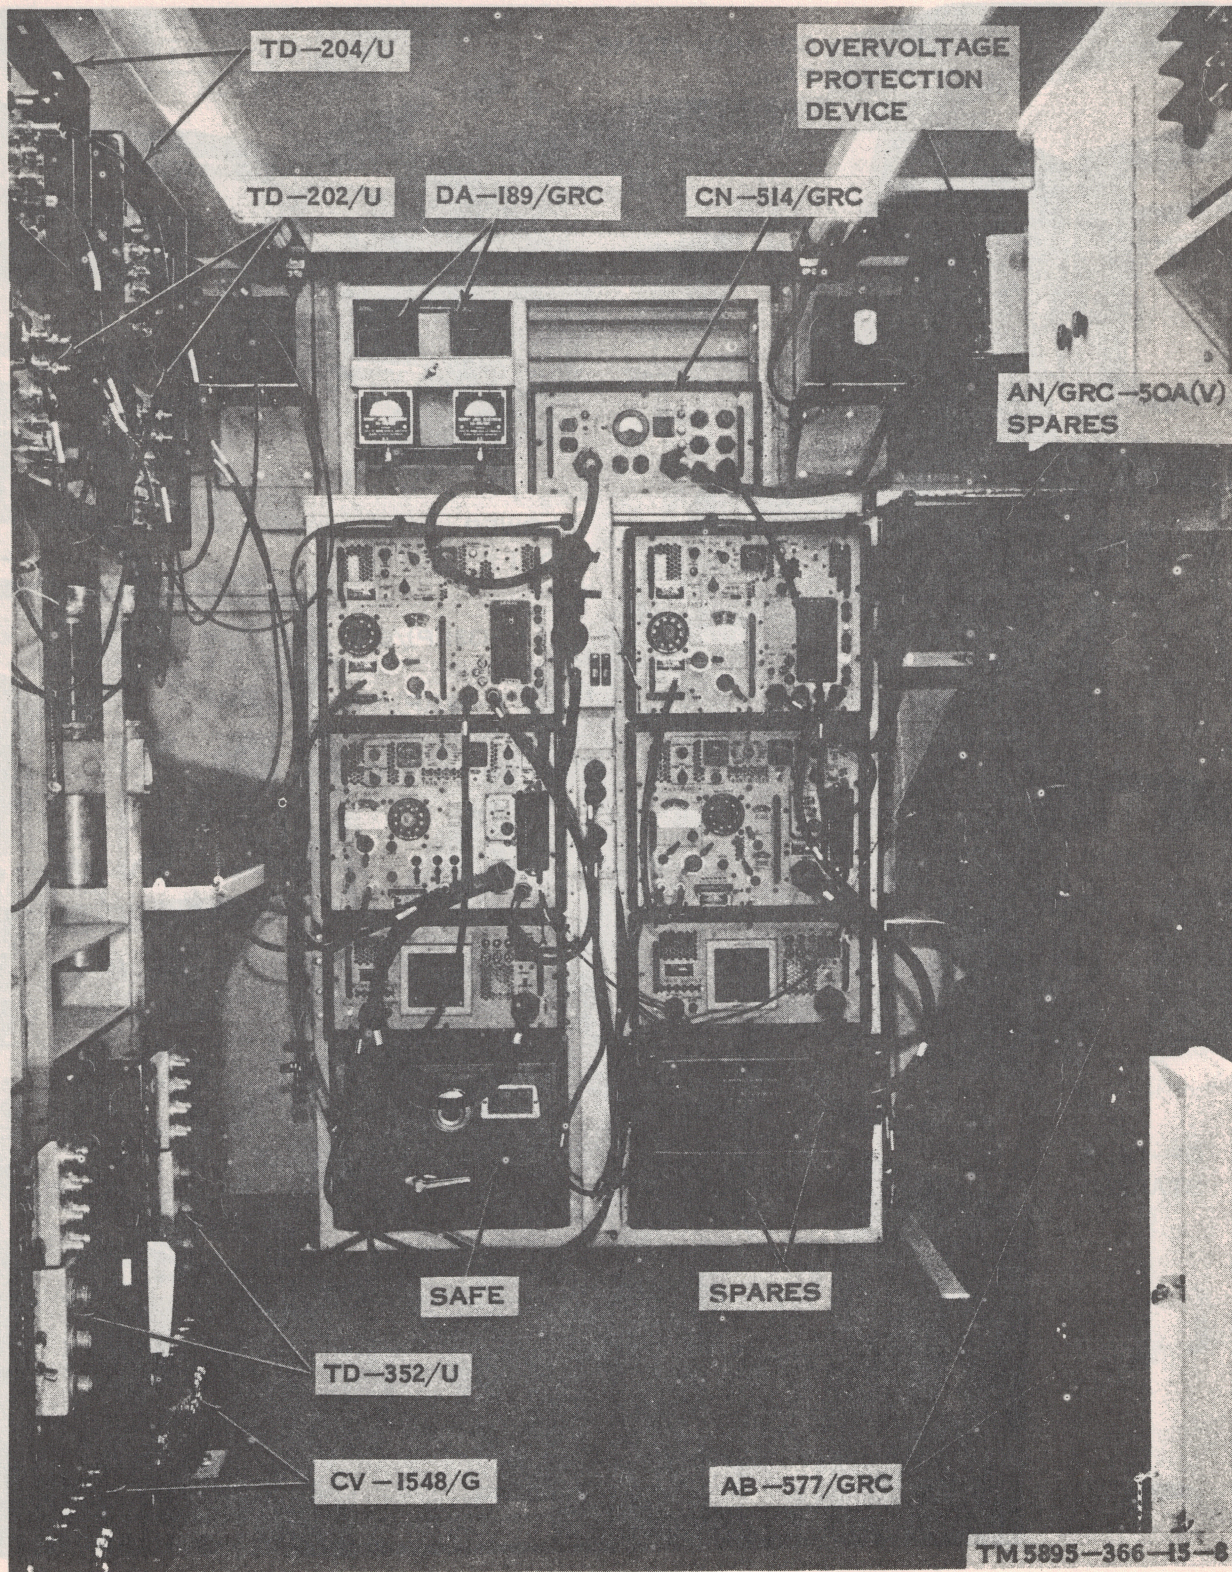
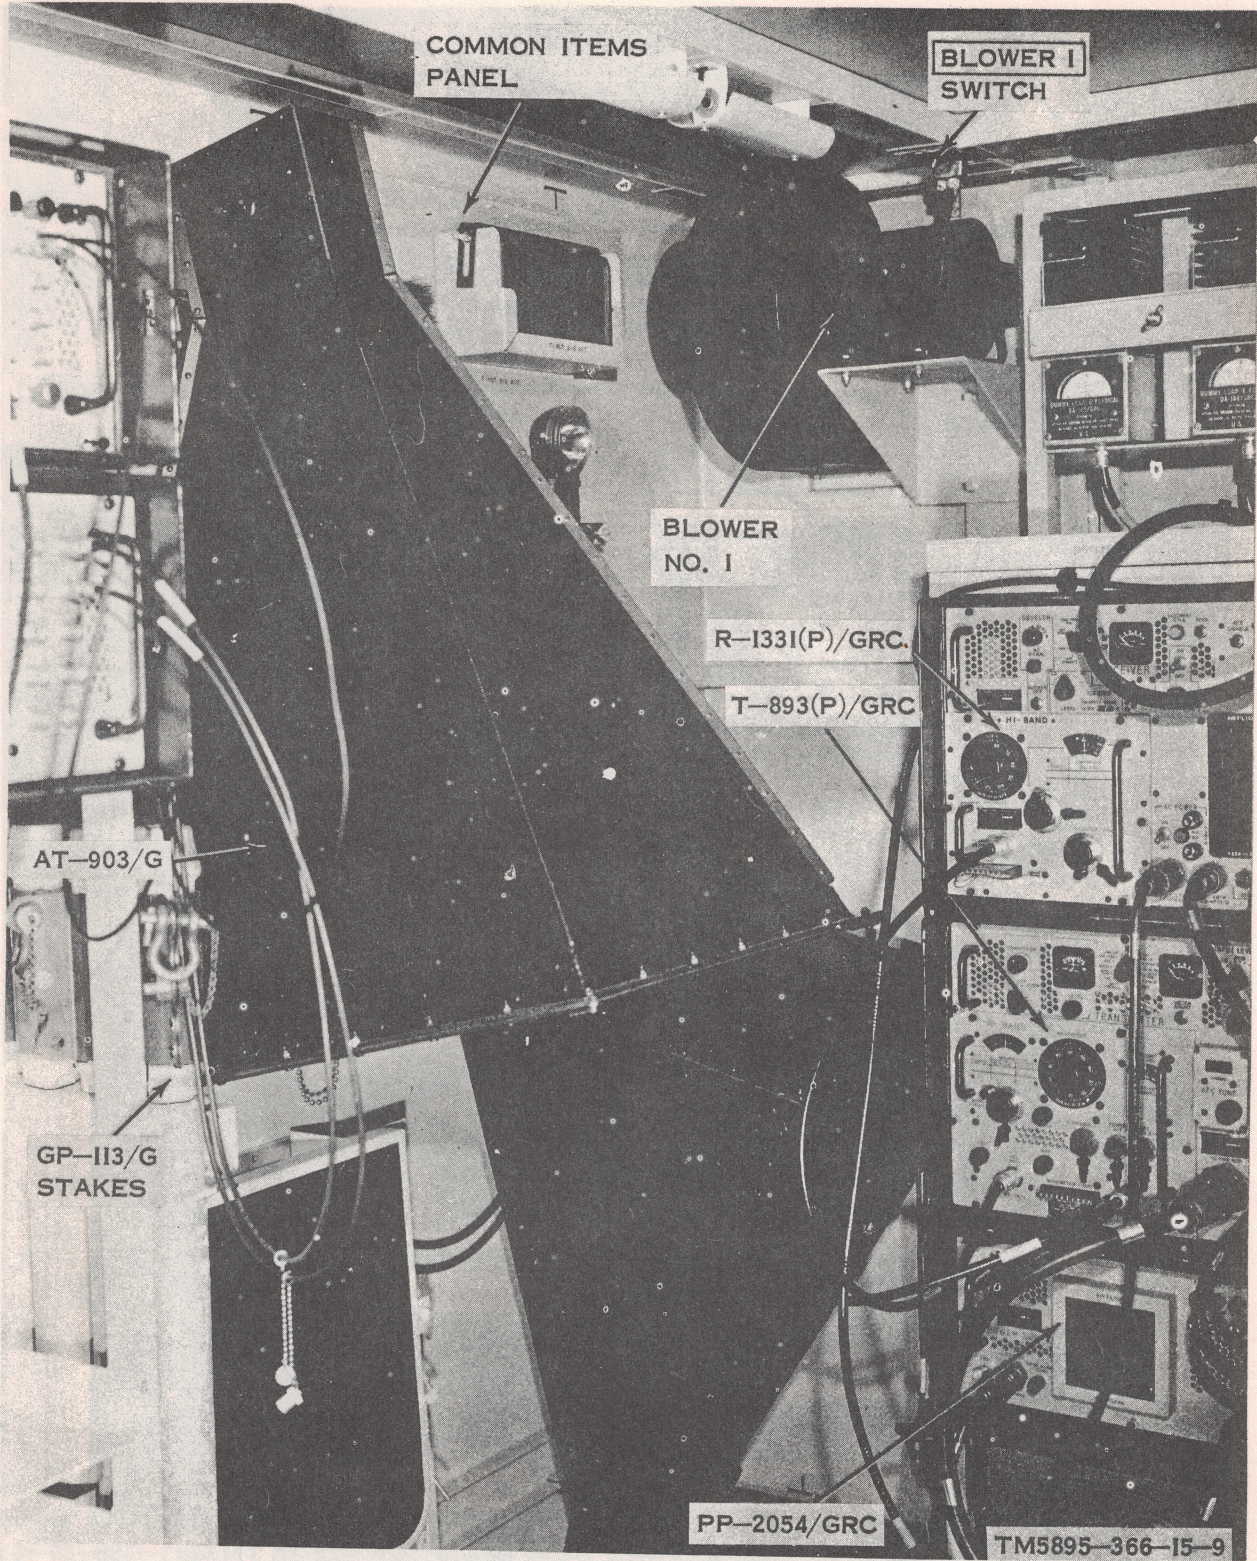

Figure 1-8. Radio Terminal Set AN/TRC-117(V), interior front view.
Figure 1-9. Radio Terminal Set AN/TRC-117(V), interior front roadside view.
a. Equipment Racks. The equipment racks for the AN/GRC-50A(V) components are mounted against the front wall of the assemblage (figs. 1-8 and 5-1). The two racks on which the components are mounted are separated by a signal and power duct. The SYSTEM 1 and 2 circuit breakers and the power receptacles for the components are mounted on the duct. Each rack mounts one Receiver, Radio R-1331(P)/GRC, one Transmitter, Radio T-898(P)/GRC, and one Power Supply PP-2054/GRC. The roadside rack (SYSTEM 1) accommodates a security safe, and the curbside rack (SYSTEM 2) mounts two spare cases. The equipment racks for the TD-202/U, TD-204/U, TD-352/U, CV-1548/
b. Antenna and Mast Storage. Two Antennas AT-903/G are mounted on the roadside wall of the assemblage, forward of the equipment racks (fig. 1-9). The AT-903/G's are secured to mounting brackets with spring pins. Two Masts AB-577/GRC are stack-mounted against the curbside wall (fig. 1-8). Antenna Support AB-957/GRC is mounted to the loading chute on the assemblage floor. Seven Stakes CP-113/G are mounted against the side of the roadside equipment racks (fig. 5-1).